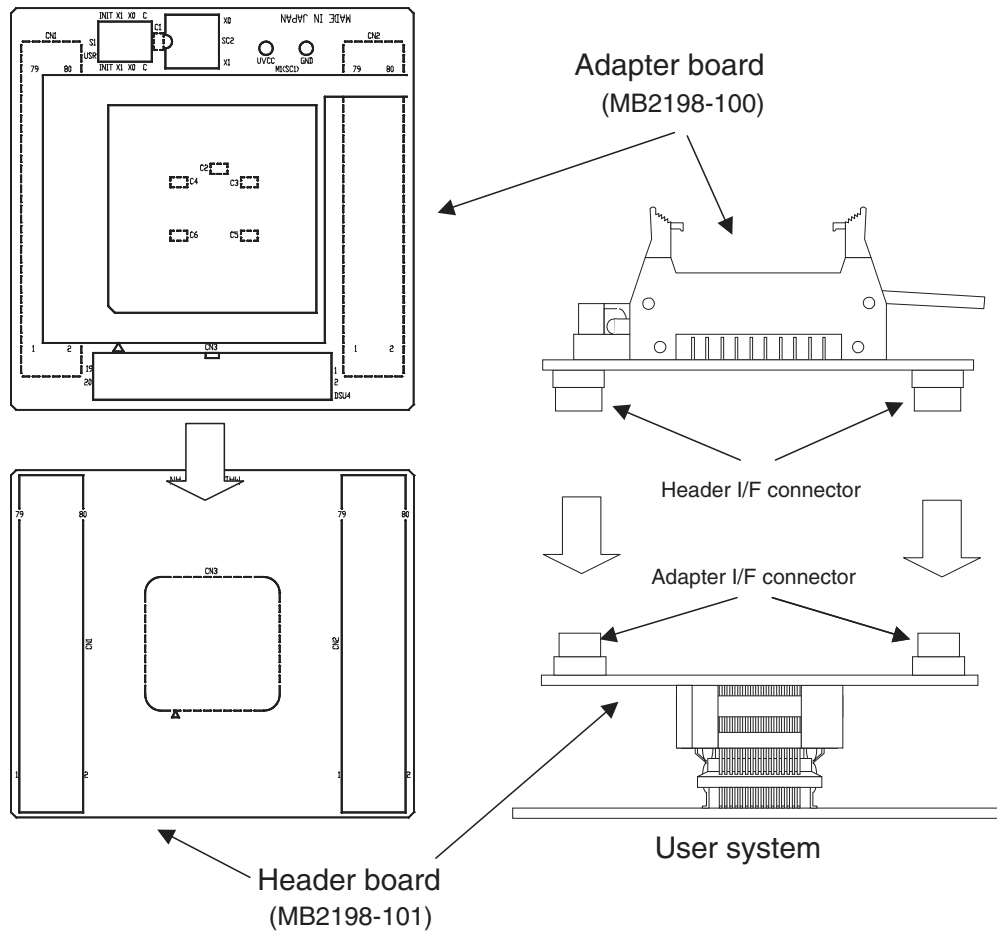

Figure 2-1 Adapter board connection
- To connect the header board to the adapter board, match the position of the adapter I/F connector mounted on the header board with that of the header I/F connector mounted on the adapter board, and then insert the adapter board until it clicks into place. (See Figure 2-1.)